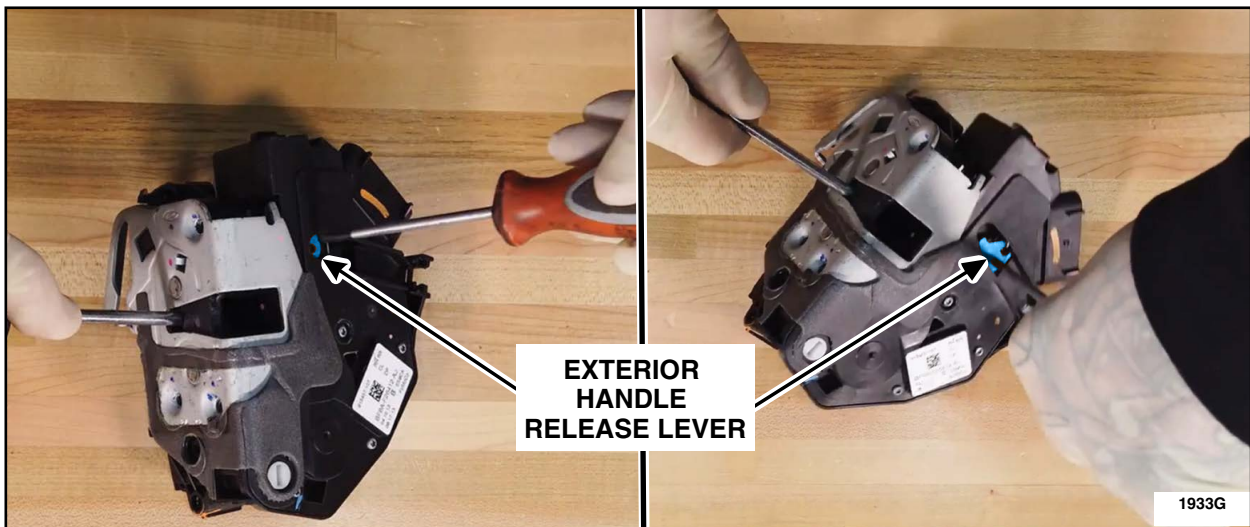

FIGURE 14
4. Re-engage the latch with the screwdriver. See Figure 14.
5. After the latch has been placed in the latched position, take a second screwdriver and actuate the exterior handle release lever. See Figure 14.